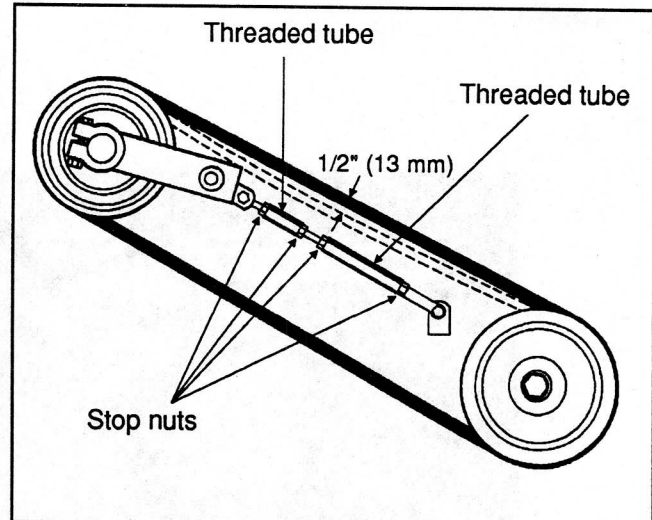

Figure 3
3. Turn cylinder air valve counterclockwise in order to reverse pressure, or loosen the two stop nuts of the mechanical tensioner and the two threaded tubes until belt pressure is relieved. Refer to figure 3.
7. Turn air valve clockwise to restore pressure in cylinder, or tighten the two threaded tubes in order to ensure an adequate belt tension. Fix tubes by means of the two stop nuts. Refer to figure 3.
**CAUTION:** Belt must depress 1/2"(13 mm) for an adequate pressure. Refer to figure 3.